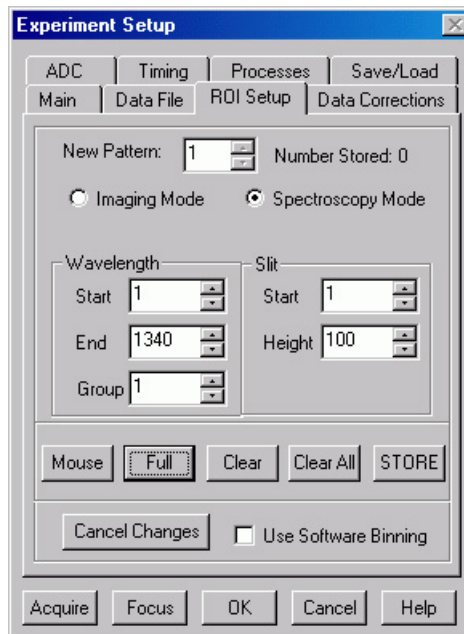

Figure 35. ROI dialog
- On the **ROI** tab page select **Spectroscopy Mode** as shown in Figure 35. The **Use Full Chip** selection on the **Main** tab page overrides any ROI settings that may be present.